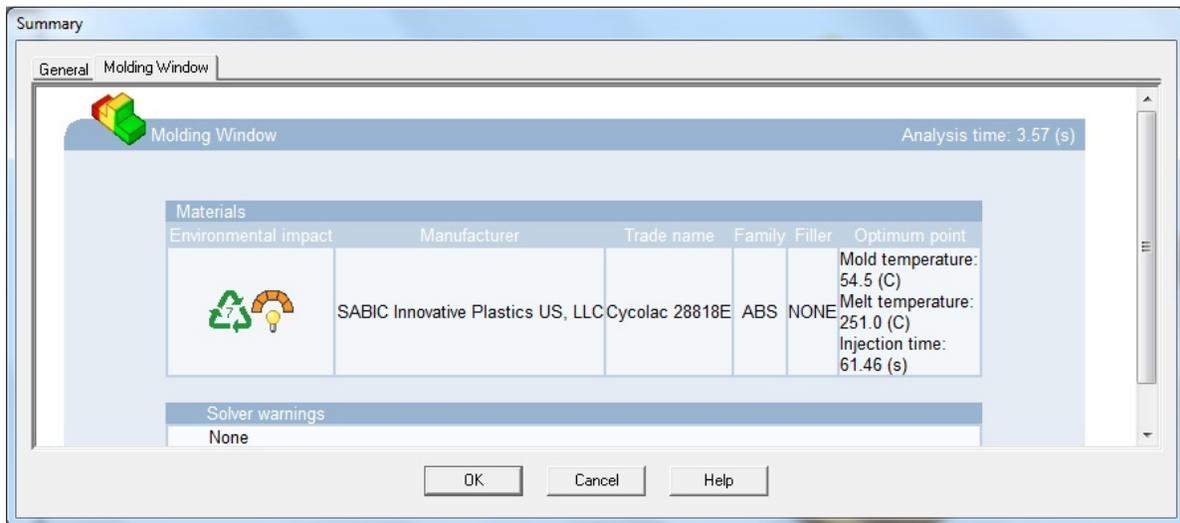

Figure 19-98 The Summary dialog box
3. After the analysis is complete, the summary is displayed in the summary dialog box, as shown in Figure 19-98. Choose the **Cancel** button to exit. You can view the analysis report any time from the **Results** node in the **Mold Design** Browse Bar.